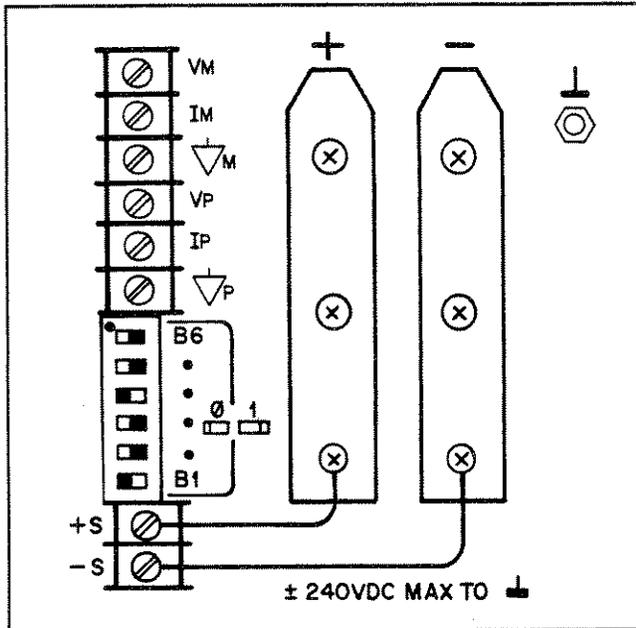

Figure 3-2. MODE-Switch Settings for Front-Panel Control
- a. Check that the rear-panel, MODE switch settings are as shown in Figure 3-2.
3-21 Settings of the rear-panel MODE switch determine the operating modes of the unit. The Normal Operating Mode is with the unit set up for sensing of output voltage directly at the output terminals—local sensing—and set up for operation using the front-panel controls—local programming. Figure 3-2 shows the MODE switch settings for the normal operating mode. Other operating modes covered in this section are remote voltage sensing, remote programming of output voltage and current using external voltages or resistances, and multiple supply operation in auto-parallel, auto-series, and auto-tracking operating modes.
3-24 The unit is shipped from the factory configured in the normal operating mode—local sensing and programming. Besides jumpers between output and sense terminals, normal operating mode requires the MODE switch settings shown in Figure 3-2.